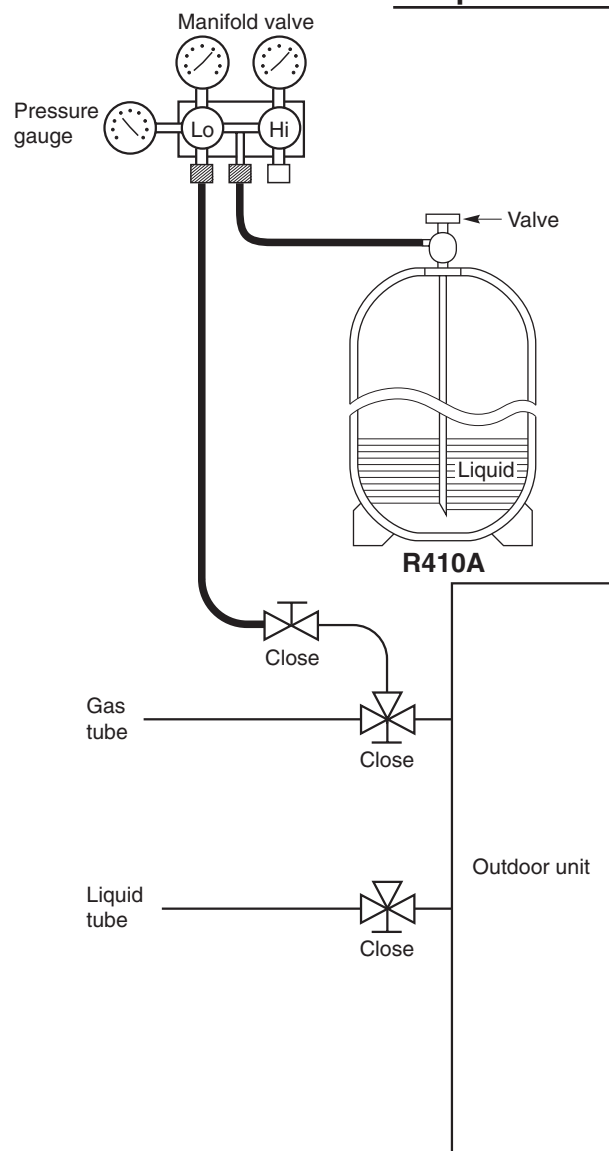

Fig. 1-126
- Charging additional refrigerant (calculated from the liquid tube length as shown in Section "1-12. Installation Instructions, 1. Tubing Size, Table 1-2 Tubing Data for Models", Amount of additional refrigerant charge) using the liquid tube service valve. (Fig. 1-126)